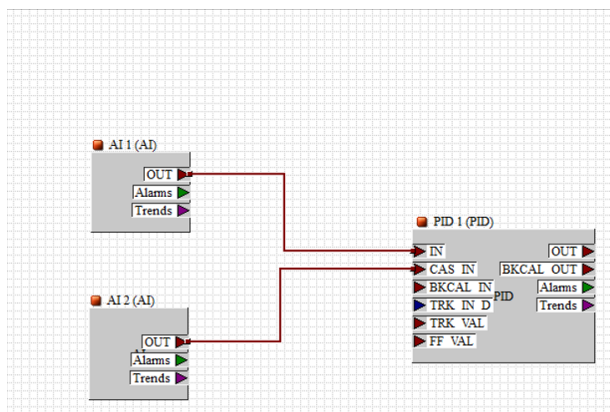

Figure 3.13 Function block configuration diagram
(1) After ensuring that the NCS-TT106F transducer block is configured correctly and are in Auto mode, open the "Function Block Application" configuration interface in the NI software, drag the AI1, AI2, and PID function blocks into the configuration interface to connect AI1 and AI2 OUT to PID IN and CAS_IN respectively. As shown in Figure 3.13 below.